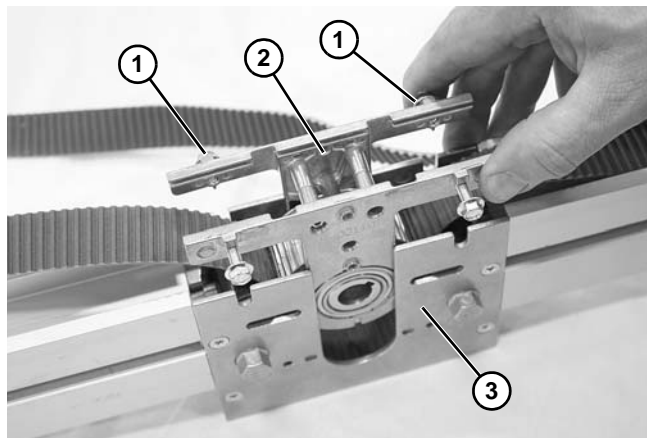

Figure 37
- Non-Drive Side:** Loosen hex flange screws (**Figure 37, item 1**). While pressing in on hex flange screws lift mid drive cartridge (**Figure 37, item 2**) from mid drive assembly (**Figure 37, item 3**).